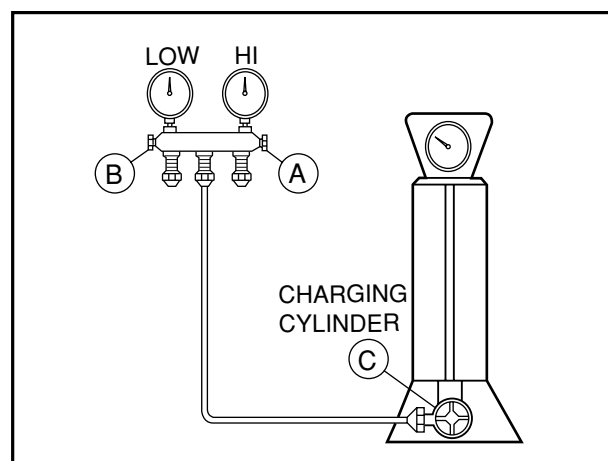

Figure 18B-Charging
- 2) Connect the charging cylinder as shown in figure 18B.